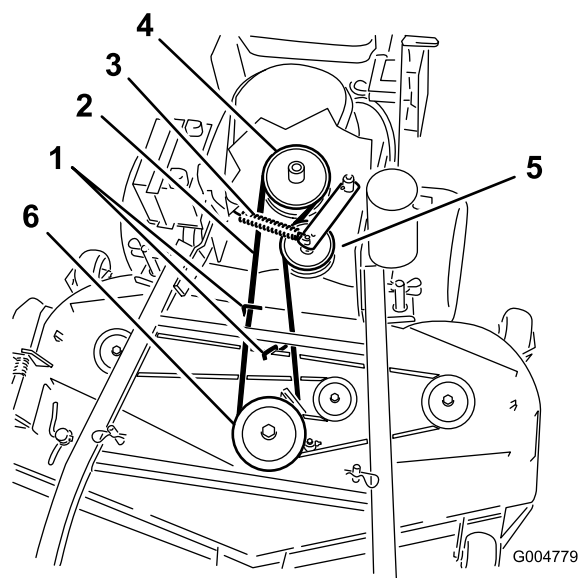
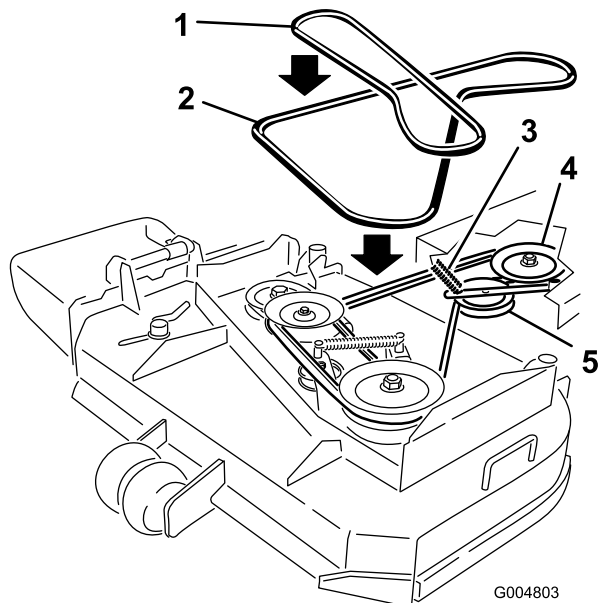

Figure 51
Figure 52
6. Roll the belt off of the center pulley on the mower deck (Figure 51). Refer to Figure 52 to roll the belt off left pulley for a 36 inch mower deck. Use caution when removing the belt as tension will increase because of the spring loaded idler pulley.
7. Remove the belt from the engine pulley and the spring loaded idler pulley (Figure 51). Refer to Figure 52 to remove the belt from the 36 inch mower deck pulleys.
8. Install the new belt onto the engine pulley and spring loaded idler pulley (Figure 51).
9. Roll the belt onto the center pulley on the mower deck (Figure 51). Use caution when install the belt as tension will increase because of the spring loaded idler pulley. Refer to Figure 52 to roll the new belt onto the left pulley for a 36 inch mower deck.
11. Adjust the belt guide an 1/8 inch (3 mm) from the belt for 48 inch mower decks (Figure 51).